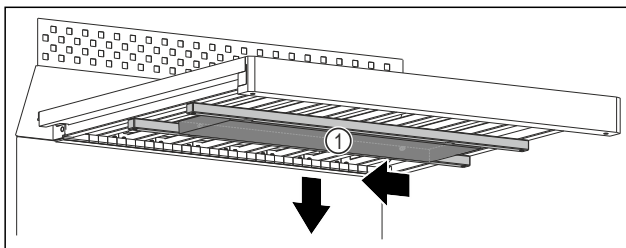

Fig. 84
- ▶ Slide the water box Fig. 84 (1) to the left.
- ▶ Remove the water box Fig. 84 (1) downward.